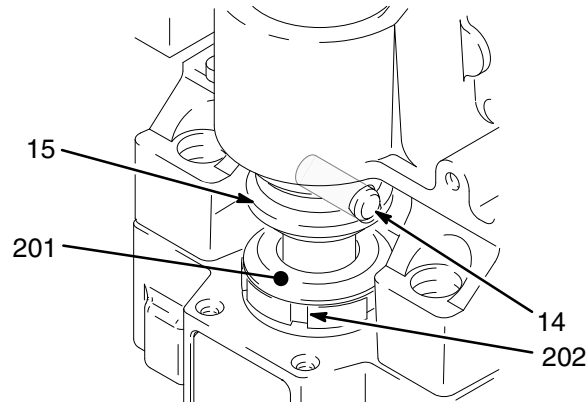

Fig. 18 7840A
Be sure retaining spring (18) is firmly in groove all around, to prevent pin (14) from working loose. See Fig. 18.